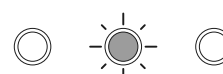

Fig. 44
3. After approximately 10 seconds the busy LED will start to flash for a further 10 seconds and then emit a single beep, as shown in **Fig.44**.